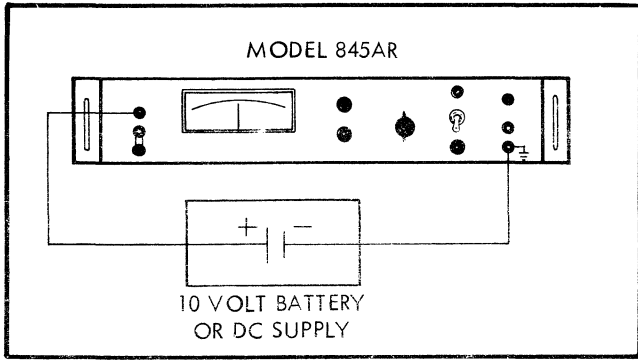

Figure 4-10. LEAKAGE RESISTANCE TEST EQUIPMENT CONNECTIONS
- a. Connect the equipment as illustrated in Figure 4-10.